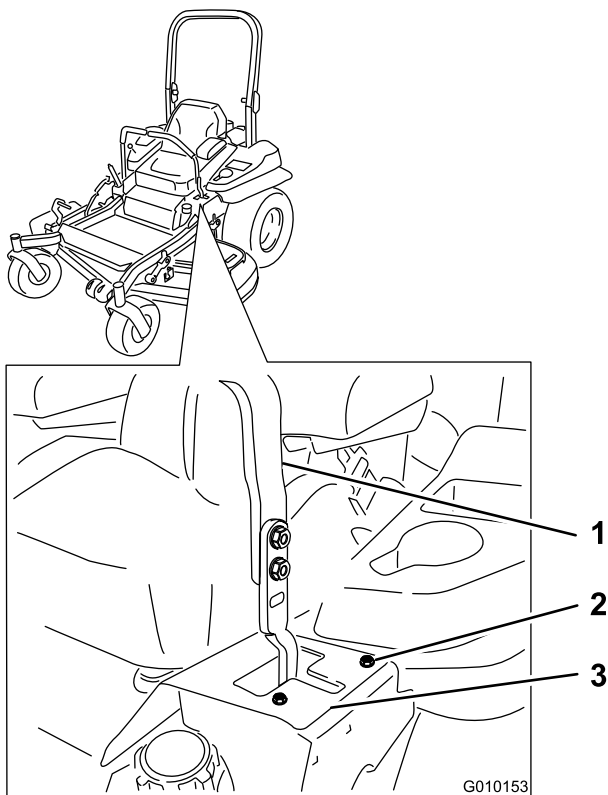

Figure 58
6. If it tracks to the right, loosen the bolts and adjust the left stop plate rearward on the left T-slot until the machine tracks straight (Figure 58).
7. If it tracks to the left, loosen the bolts and adjust the right stop plate rearward on the right T-slot until the machine tracks straight (Figure 58).
8. Tighten the stop plate (Figure 58).